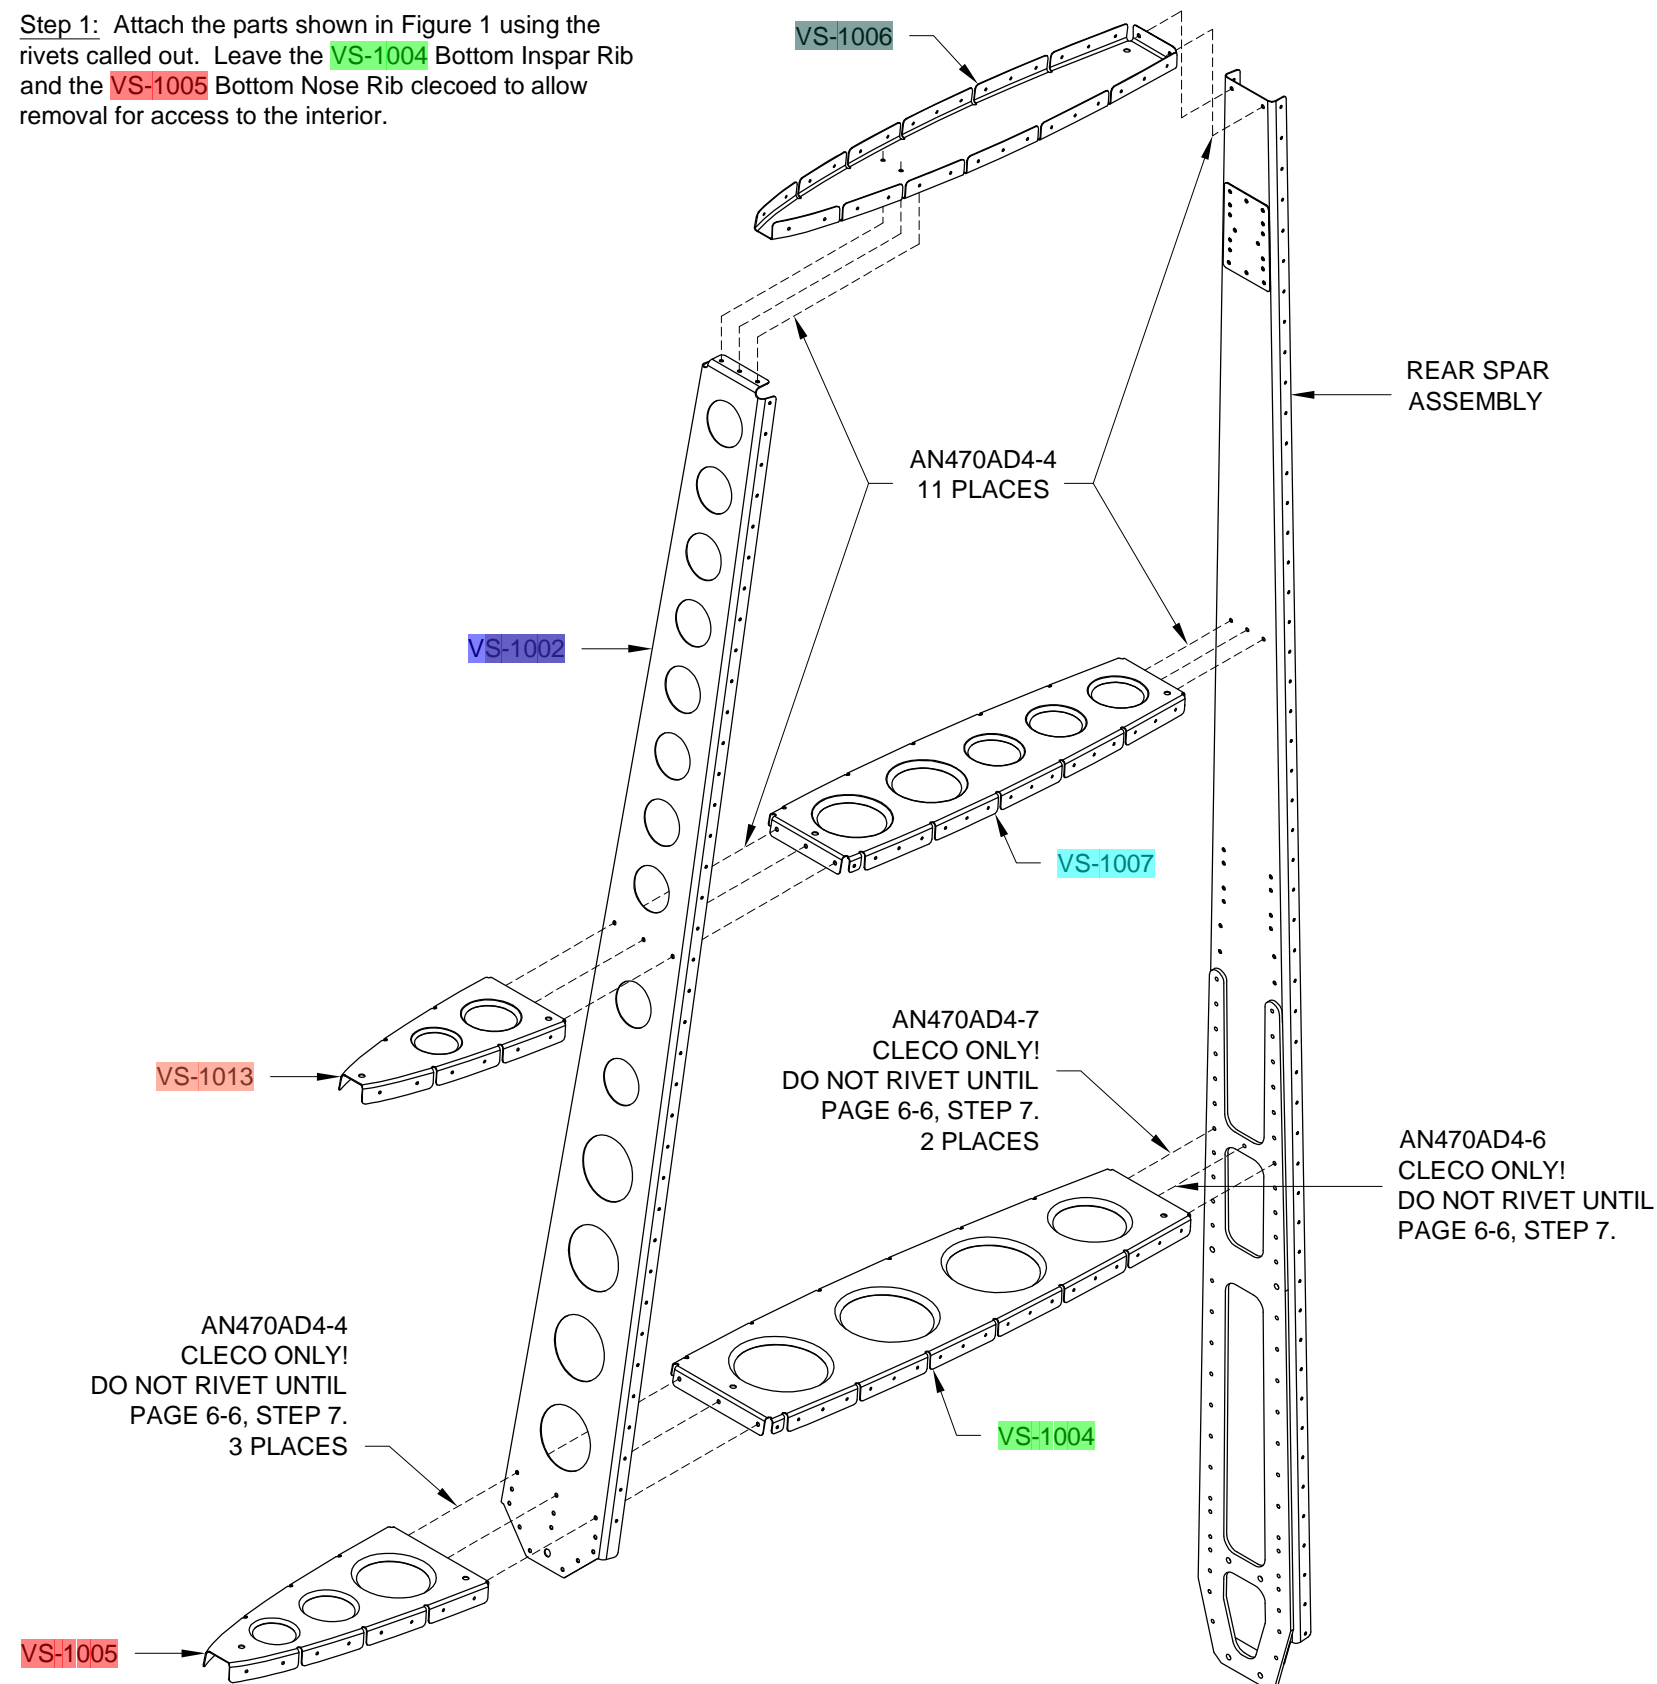

FIGURE 1: RIB RIVETS
Step 1: Attach the parts shown in Figure 1 using the rivets called out. Leave the **VS-1004** Bottom Inspar Rib and the **VS-1005** Bottom Nose Rib clecoed to allow removal for access to the interior.
Step 1: Cleco the VS-1001 Vertical Stab Skin to the skeleton. Use plenty of clecos to keep the parts aligned while riveting. Figure 1 provides rivet sizes for the vertical stab skin.